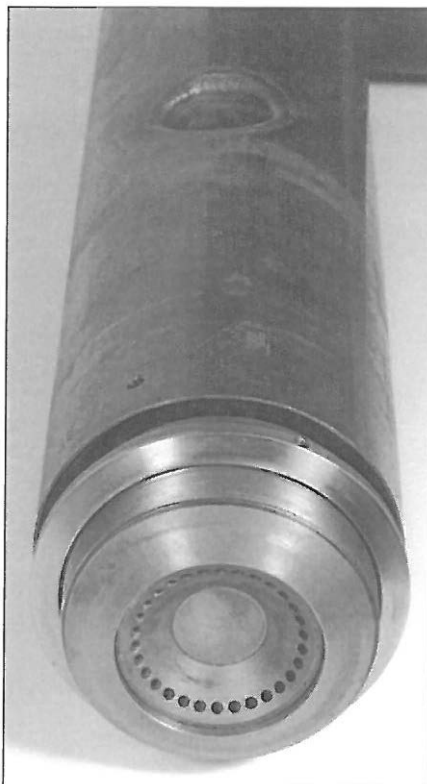

FIGURE 21
3. Install the gas nozzle orifice assembly (see Figure 21) and open the gas cocks in the gas train.